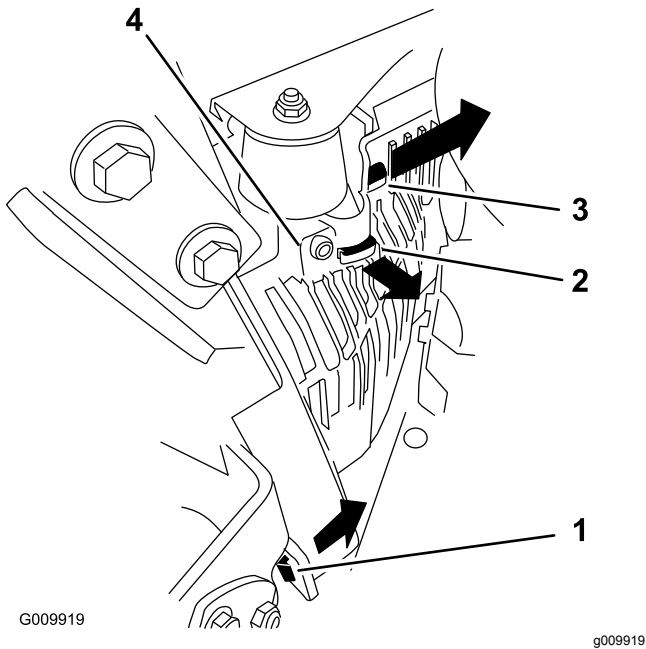

Figure 56
3. Remove the left-hand hydraulic unit shroud in the order listed with Figure 56.
5. Install the lefthand hydraulic unit shroud (Figure 56).